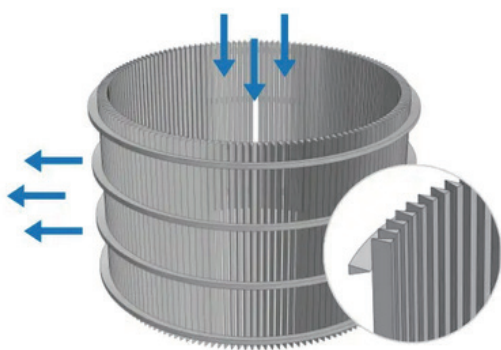
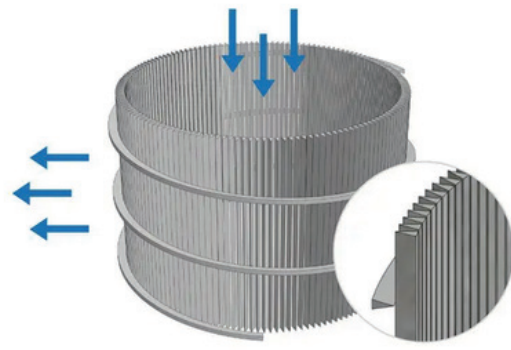

Figure 4-1 Axial Internal – FITO Joint Support
Figure 4-2 Axial Internal – FITO Continuous Support
- There are two types based on the slot and filter size: the first type is rolled from flat wedge wire screen panels, resulting in multiple welding joining points, shown as figure 4-1, while the second type involves the continuous spiral wrap of support wires around axial surface wedge wires, shown as figure 4-2.